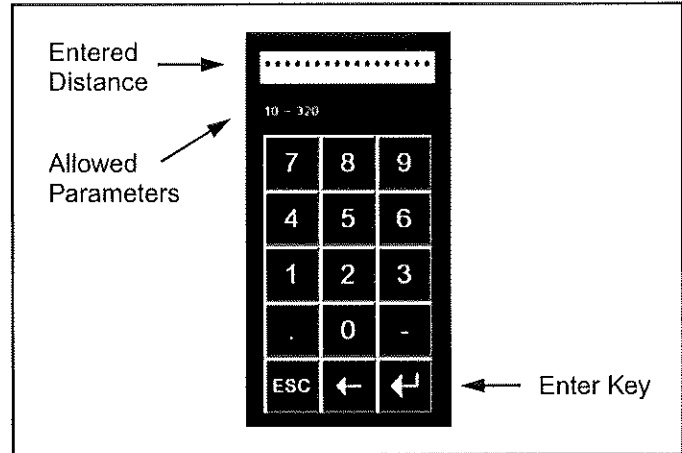

Figure 62
6. Enter the raise increment distance (H) (select 1-9 ft) then press enter (Figure 62) or enter the values on the numeric keypad.